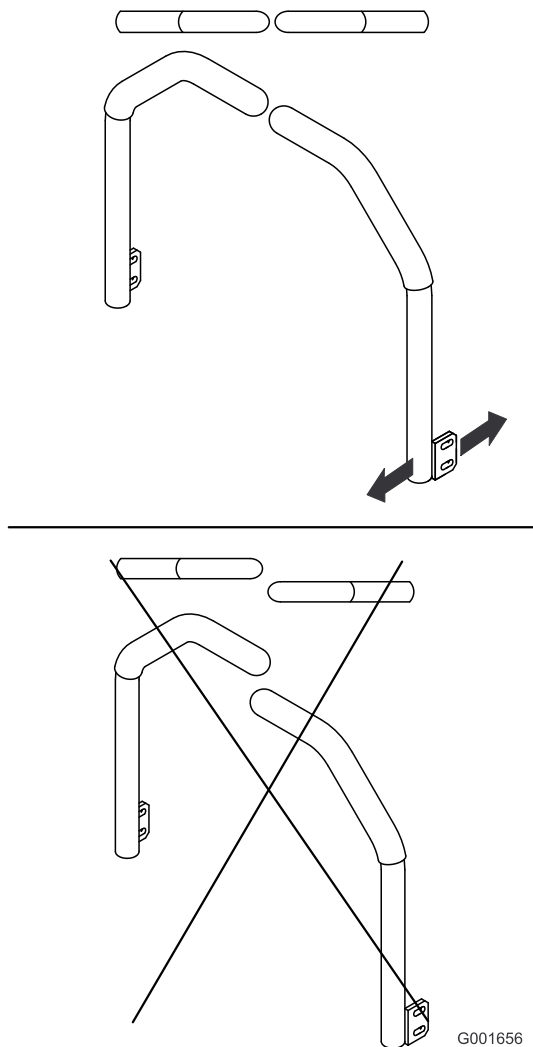

Figure 62
5. Adjust the control levers so that they line up and tighten the bolts, securing the levers to the posts (Figure 62).